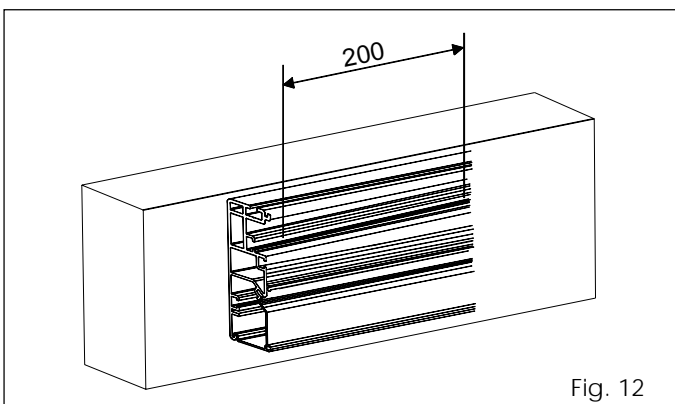

Fig. 12
- Carry out the remaining fixing operations (fig. 12).